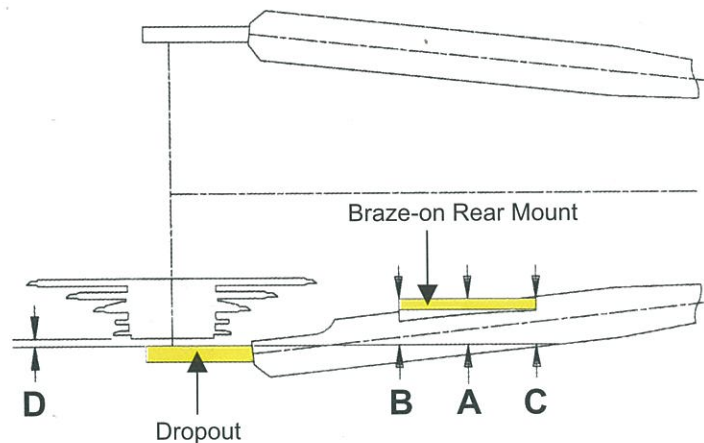

Fig. 2-2
**Choose Chain Stay dimensions so that distance from Inner Face of Chain Stay to Inner Face of Dropout does not exceed 19.3mm at position A, Fig.2-2.**